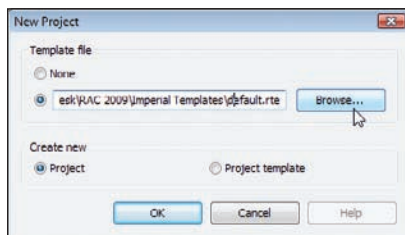

FIGURE 1.57 A new Revit model is based on an .rte template file.
2. In the resulting dialog, shown in Figure 1.57, click the Browse button.